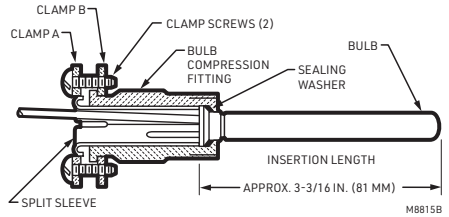
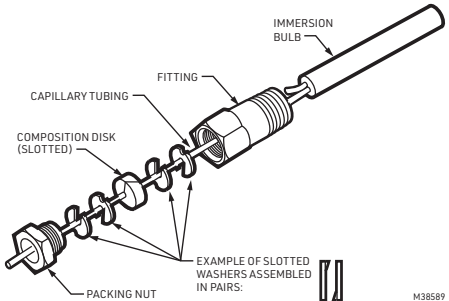

Fig. 3. Bulb Compression Fitting in. [mm in brackets].
Fig. 4. Capillary Compression Fitting.
Depending on installation requirements, the temperature sensing bulb either is installed in an immersion well (Fig. 2) that extends into the boiler tank or is directly immersed in the liquid. For installations not using a well, the bulb must be secured with a bulb compression fitting (Fig. 3) or a capillary compression fitting (Fig. 4). Well or fitting must be ordered separately. Refer to form 68-0040, "Wells and Fittings for Temperature Controllers," for part numbers and ordering information.
4. Place composition disc and 4 slotted brass washers on tubing as shown in Fig. 4. Turn brass washers so that the slots are 180 degrees from each other.